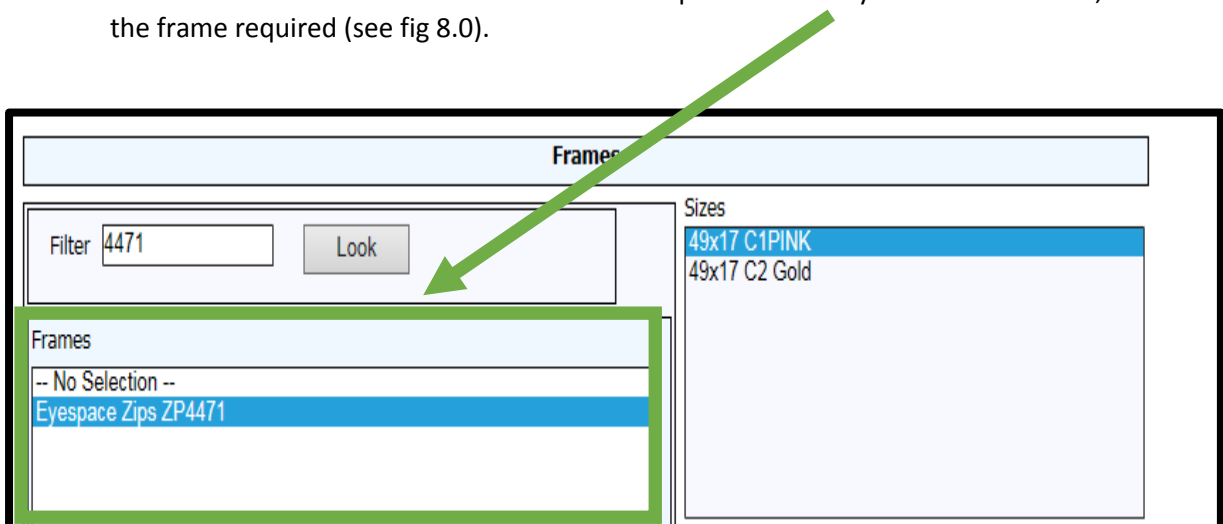

Fig. 8.0
10. From the list of frames in the left hand window pane created by the filter selection, click on the frame required (see fig 8.0).